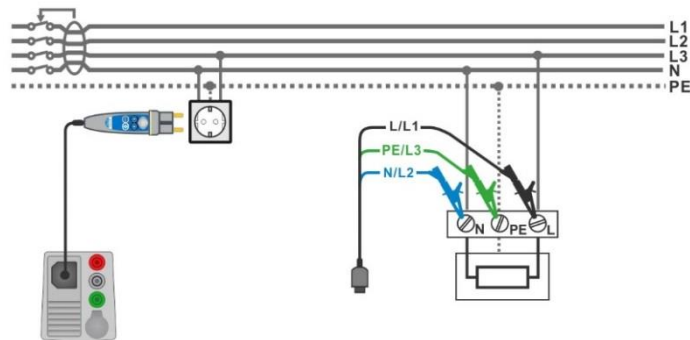

Figure 7.48: Connection of Plug commander and 3-wire test lead
- › Connect 3-wire test lead or Plug commander to the object under test, see **Figure 7.48**.